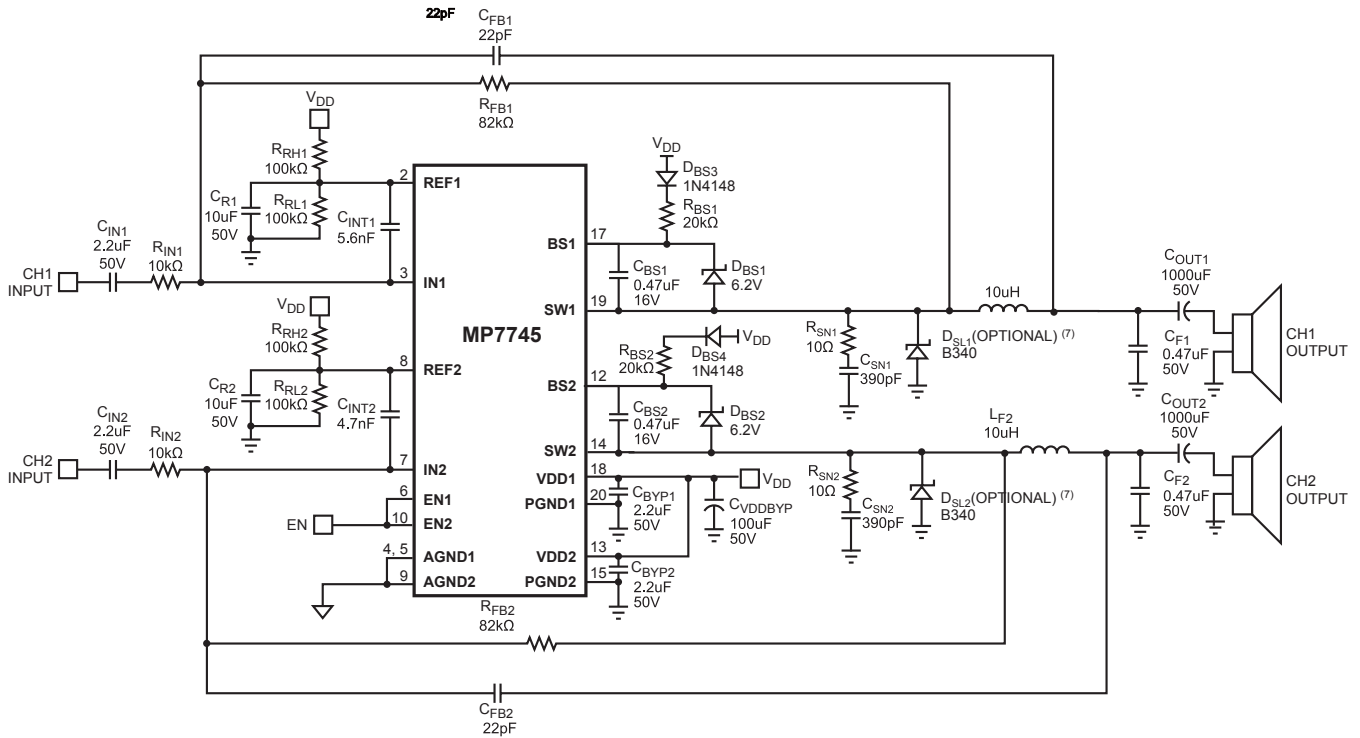

Figure 1—2 x 20W Stereo Typical Application Circuit
Circuit of Figure 1, $V_{DD}=24V$, $V_{EN}=5V$, $A_V=8.25V/V$, input signal frequency $FREQ = 1kHz$, $T_A = +25^\circ C$, unless otherwise noted.
The MP7745 uses a minimum number of external components to complete a stereo Class D audio amplifier. The circuit of Figure 1 is optimized for a 24V power supply. This circuit should be suitable for most applications. However, if this circuit is not suitable, use the following sections to determine how to customize the amplifier for a particular application.
Table 1—Switching Frequency vs. V_{DD} , Timing Capacitor and Feedback Resistor (see Figure 1)
The Inductor-Capacitor (LC) filter converts the pulse train at SW to the output voltage that drives the speaker. Typical values for the LC filter are shown in Figure 1, 10 μ H inductor and 0.47 μ F capacitor.